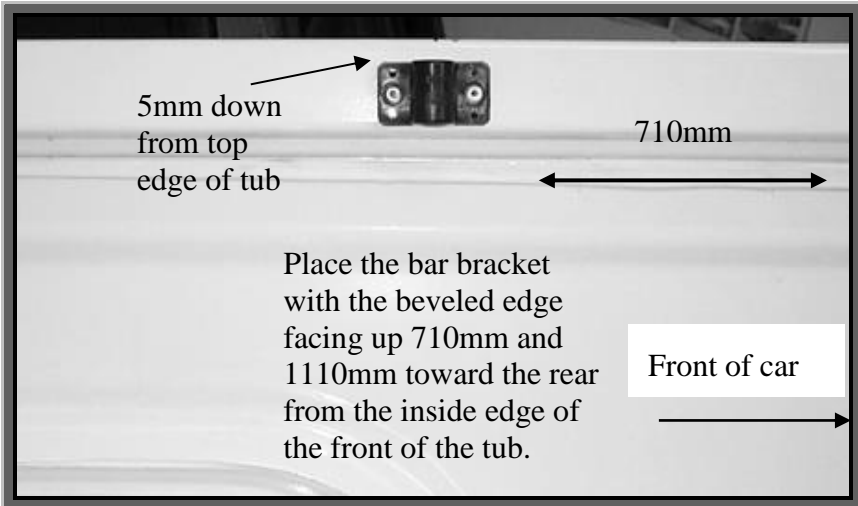

Figure 2.
5. To fit bar brackets measure 700mm and 1110mm back from the inside front edge at the top of the tub and place them as shown in Figure 2. (5mm from top edge of tub). Drill and rivet using two large rivets for each Bar Bracket. Install support bar.